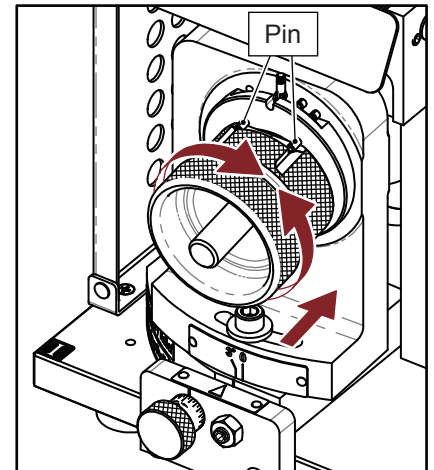

Fig. 10-1
#### 1. 3 Flute Secondary Relief Grinding (I) (Fig. 10-1)
- ① Insert the Chuck set into Shelf (I), align Slot No.1 of the clamping nut with the two pins on the shelf, gently push the Chuck set and turn it clockwise and counterclockwise until the grinding noise stops.
- ② Take the Chuck set out, turn it to grind the Slot No.2 and Slot No.3 in the same way.